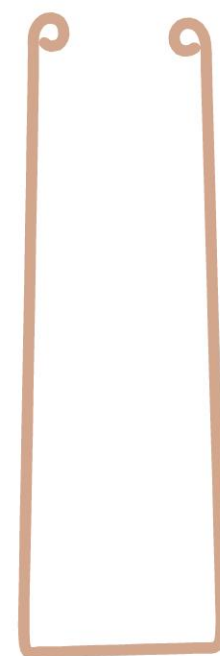

figure 1
- 2 Determine the length of wire you'll need to make the spiraled ends at the end of each frame by first cutting 3" (7.6 cm) of 16-gauge scrap wire and marking the wire at  $\frac{3}{4}$ " (1.9 cm), 1" (2.5 cm), and  $1\frac{1}{4}$ " (3.2 cm). Use the tips of round-nose pliers to form a loop on the end nearest the  $\frac{3}{4}$ " (1.9 cm) mark. Place the wide end of round-nose pliers under the small loop just made, with the loop facing toward you. Roll the wire until the small loop touches the 16-gauge wire. Ideally, there will be a mark at the top center of your loop. The top center of my loop falls just before the 1" (2.5 cm) mark, estimating that I use  $\frac{7}{8}$ " (2.1 cm) to form my spiraled ends (Figure 1). **NOTE:** This measurement changes with every wire gauge. Be sure to always use the same gauge as your project when calculating the length of wire needed. **NOTE:** The base of the frame can be any desired width, but making it wider than 1" (2.5 cm) makes it difficult to keep the weaving wires uniform and straight. To make a wider frame, adjust the measurement in Step 2.